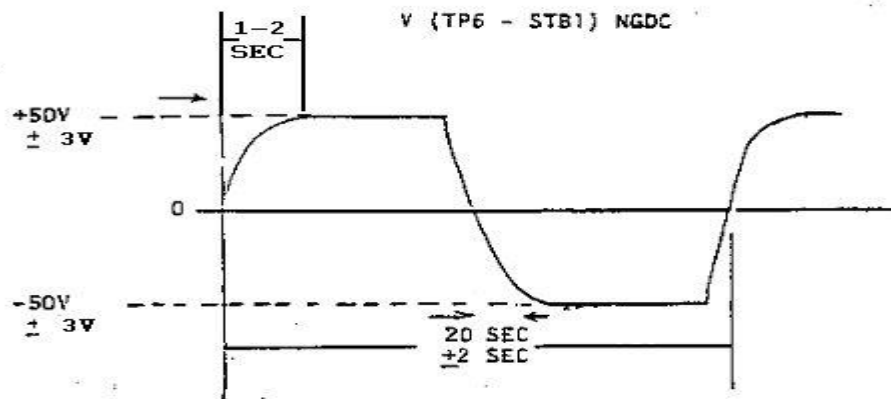

FIGURE2
- 6.4.4.3 Verify the waveform in FIGURE 2.